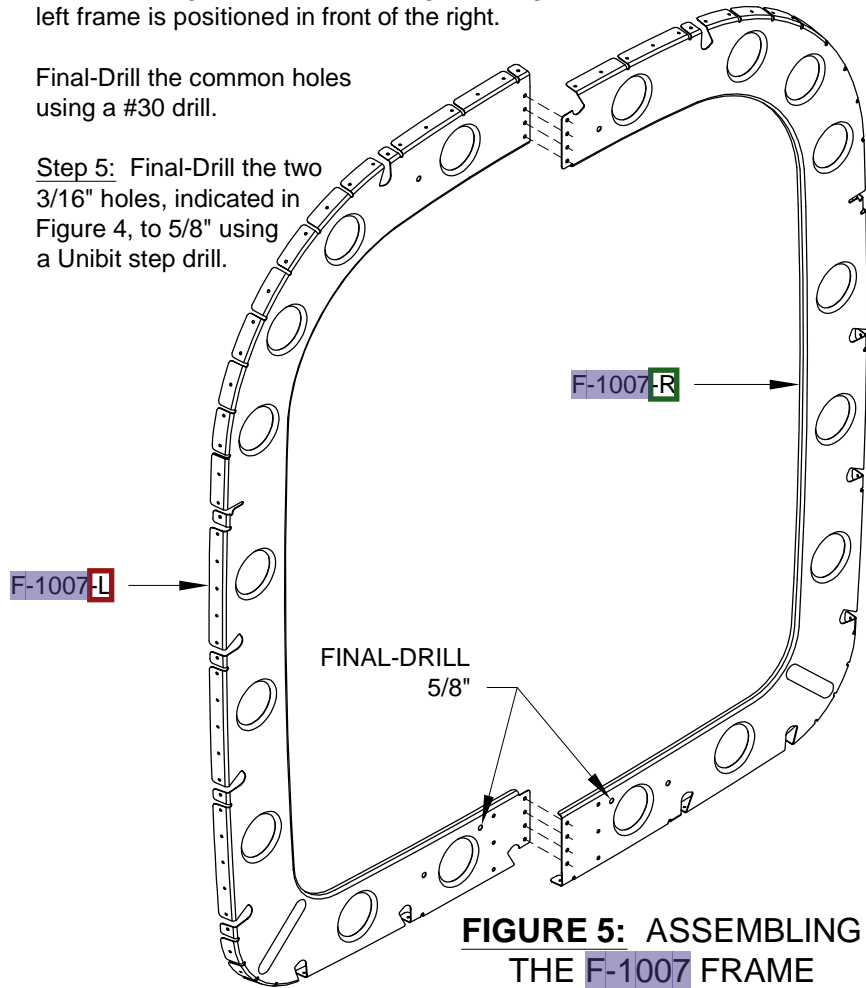

FIGURE 5: ASSEMBLING THE F-1007 FRAME
Step 4: Deburr and flute the F-1007-L & F-1007-R Frames, then cleco them together as shown in Figure 5. Again, the left frame is positioned in front of the right.